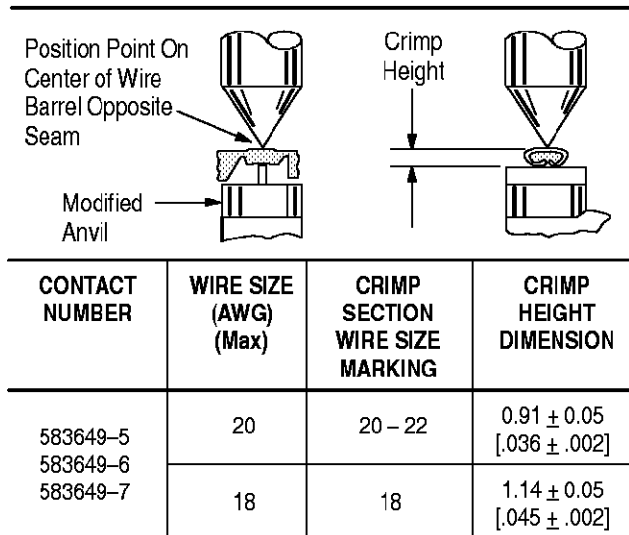

Figure 5
This inspection requires the use of a modified micrometer with a modified anvil and spindle, as shown in Figure 5. AMP recommends the Crimp Height Comparator RS-1019-5LP which can be purchased from:
3. Using a crimp height comparator, measure the wire barrel crimp height as shown in Figure 5. If the crimp height conforms to that height, the tool is considered dimensionally correct. If not, the tool must be returned to AMP for evaluation and repair. See Section 6, REPLACEMENT AND REPAIR.